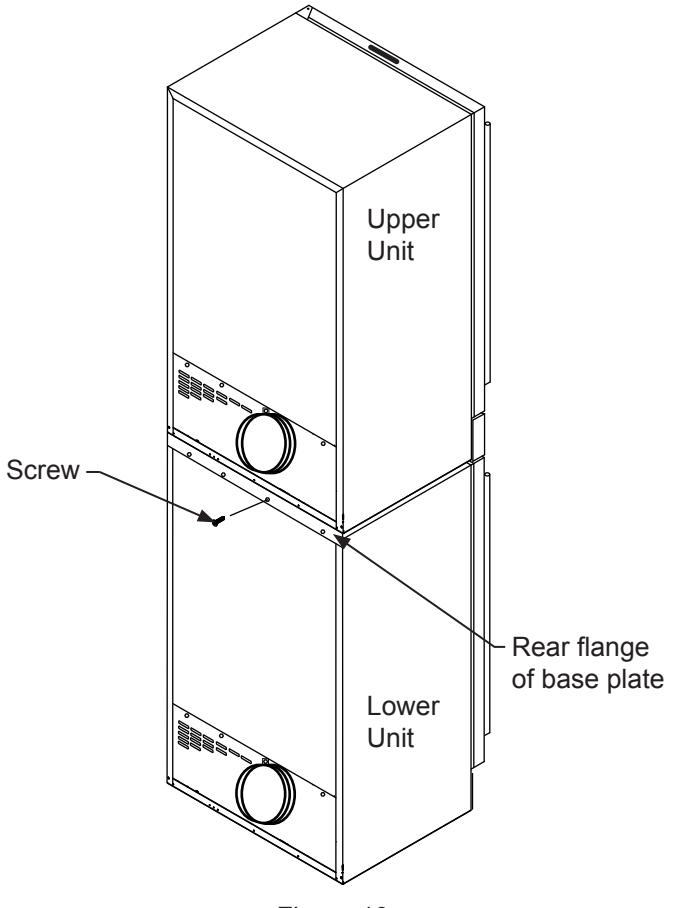

Figure 10
4. **With a helper(s)** lift the upper unit and place on top of the bottom unit, align the cabinet edges of the upper and lower units, and secure with the four (4) self drilling screws that are provided with the $\frac{5}{16}$ " socket and drill motor. The screws are self drilling, use the 4 slots in the flange of the baseplate as pilots for the screws. Use care when tightening the screws so you do not over torque them and strip out the screw holes. (See Figure 10).